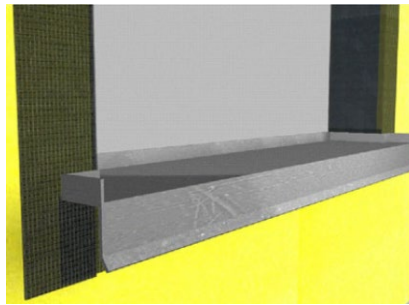

Figure 6
6) Install diagonal “butterflies” consisting of AquaFlash Liquid and AquaFlash Mesh at each sill/jamb corner – Figure 6.